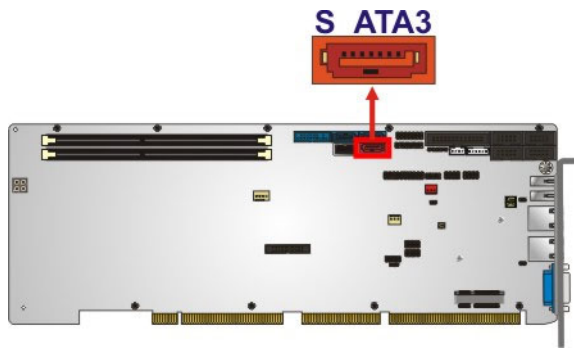

Figure 3-21: SATA 3Gb/s Drive Connector Location
- CN Location:** See **Figure 3-21**